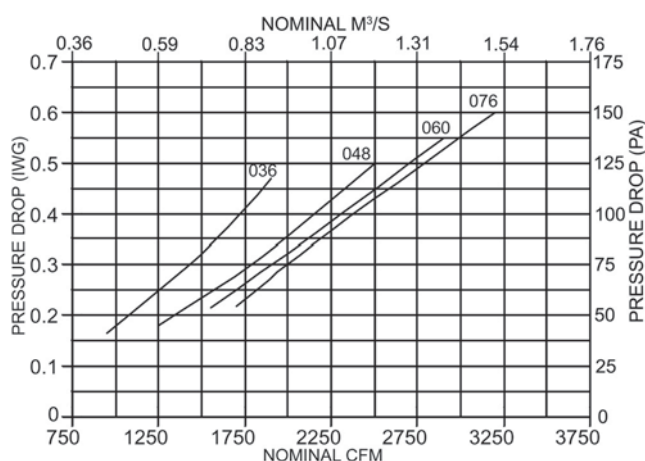

Figure 21: Pressure Drop Across Coil Operation
4. Knowing the pressure drop across a dry coil, the actual volumetric flow rate through the unit can be determined from the curve in Pressure Drop vs. Supply Air flow rate (Figure 21).